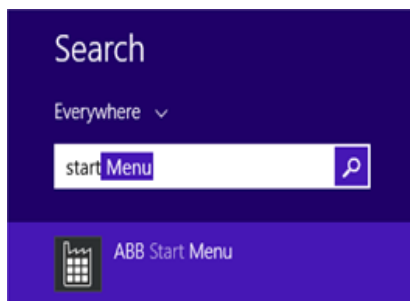

Figure 4. Accessing ABB Start Menu through the Search Window
- The ABB Start menu can be opened using Windows Search as shown in Figure 4.